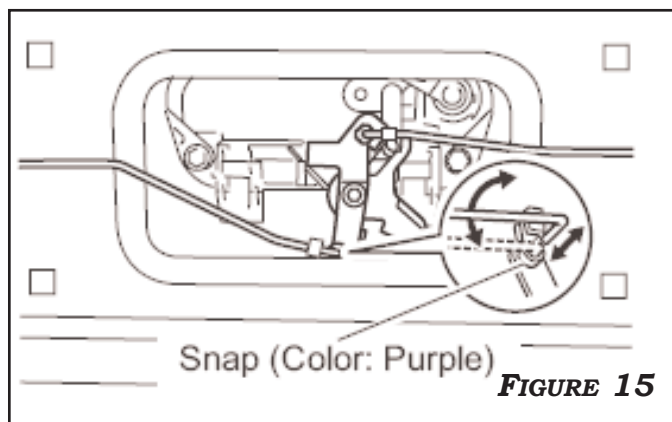

FIGURE 15
3. REMOVE THE LATCH ASSEMBLY FROM THE TAILGATE BY REMOVING (2) 8MM BOLTS. **FIGURE 15**